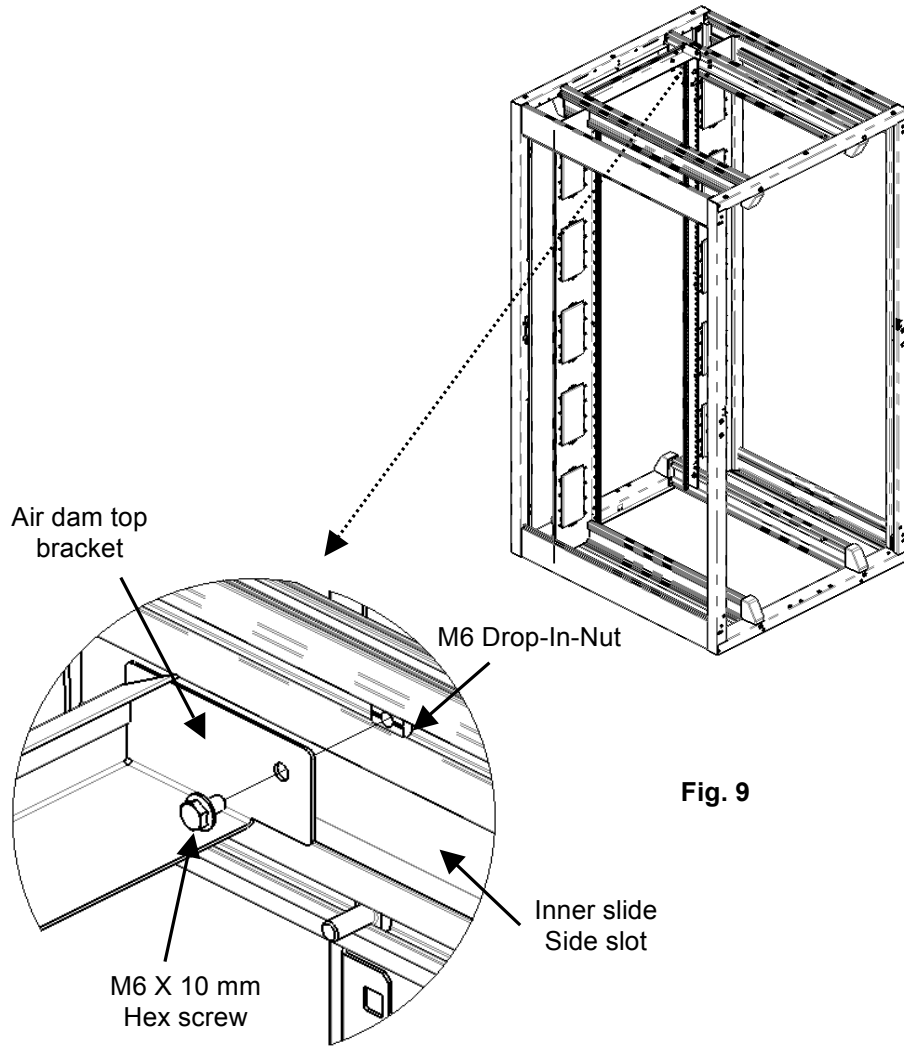

Fig. 9
7. Attach top bracket using M6 X10 mm screws. Slide forward until over the rails and secure (Fig. 9).